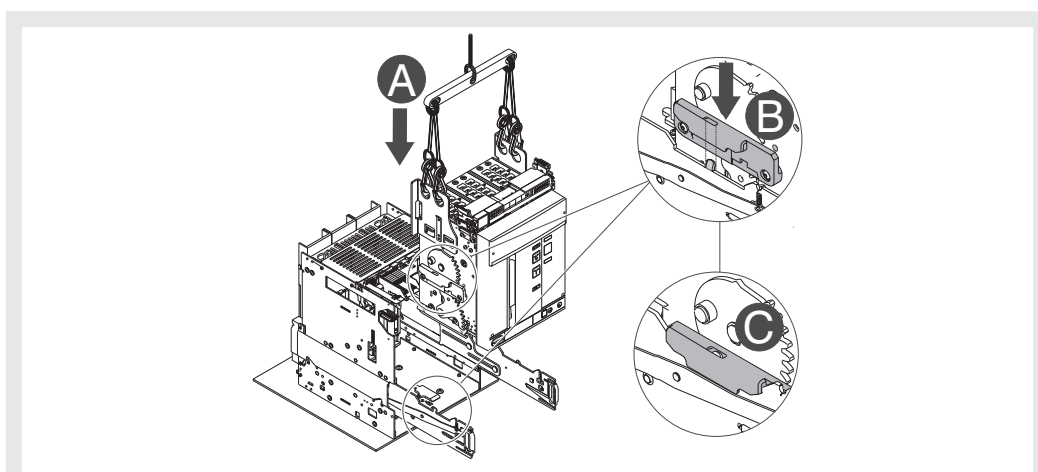

Figure 39
4. Position the moving part on the guides of the fixed part. Latch by inserting the hollow part of the side in the latch of the guide of the fixed part. See Figure 39.